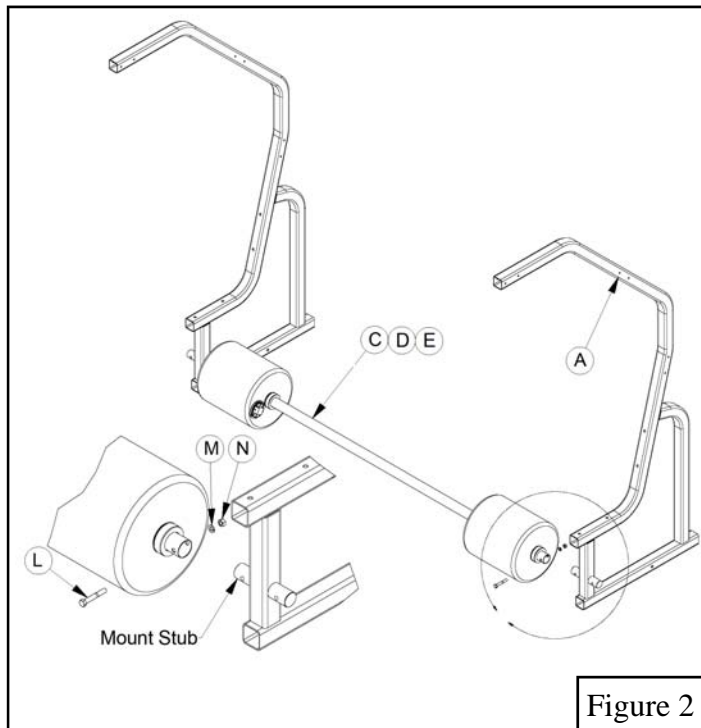

Figure 2
3. Use $3/8''$ X $2\ 1/2''$ Hex Bolts (L), $3/8''$ Lock Washers (M) and $3/8''$ Hex Nuts (N) to attach Leg Assemblies (A) to each end of the Spreader Bar Assemblies (C)(D)(E). See Figure 2.